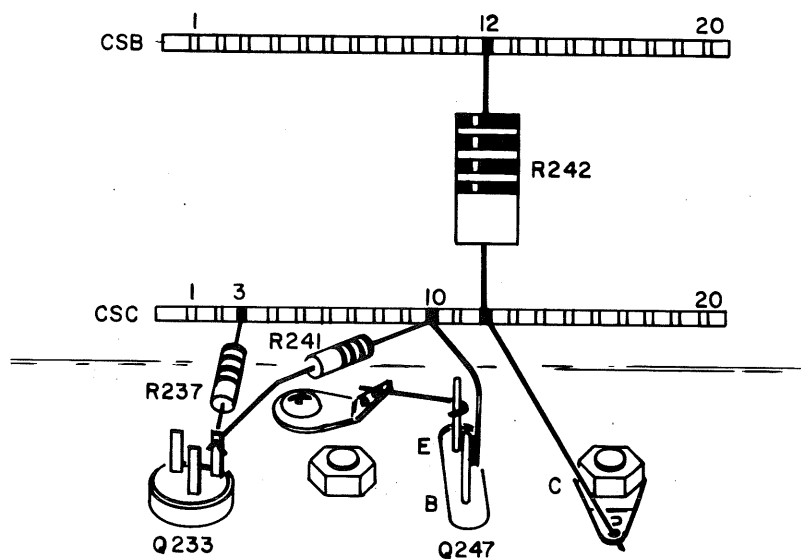

FIG. 3
- ( ) 6. Replace R237, a 22k 1/4W 10% resistor located as shown in Fig. 3, with a 4.7k 1/4W 10% resistor from the kit.
- ( ) 7. Replace R241, a 100 $\Omega$  1/4W 10% resistor located as shown in Fig. 3, with a 47 $\Omega$  1/4W 10% resistor from the kit.
- ( ) 8. Replace R242, a 150 $\Omega$  10W wirewound resistor located as shown in Fig. 3, with a 27 $\Omega$  2W 10% resistor from the kit.